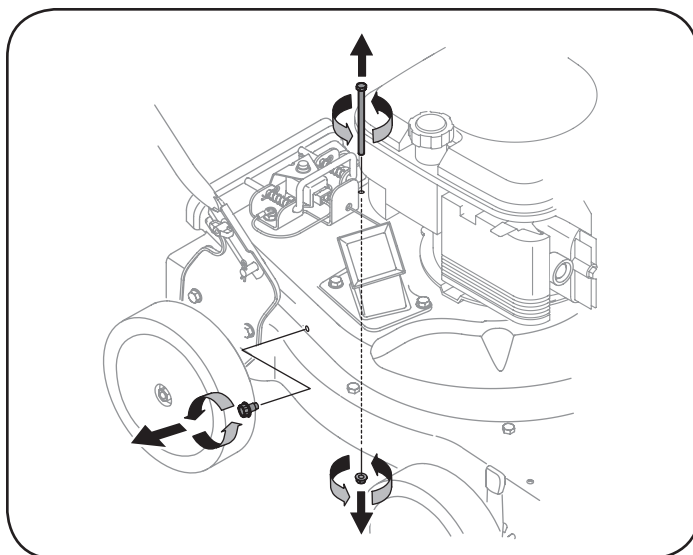

Figure 20
5. Remove self tapping screw on right side of unit that attaches to the flail screen. See Figure 20.
6. Remove hex screw on top of rear housing near mounting bracket and the flange lock nut that secures flail screen. See Figure 20.